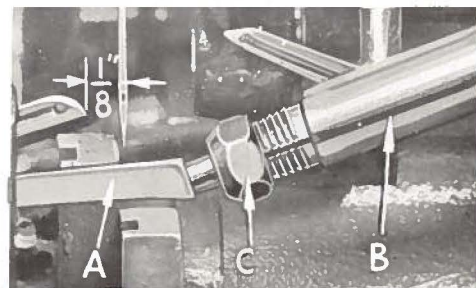

Fig. 6
At this point, insert lower looper (A, Fig. 6) into bar (B). With lower looper at left end of its stroke, set looper point 1/8 inch from center of needle (Fig. 6), using looper gauge No. 21225-1/8. Do not have lower looper deflecting needle. Tighten nut.